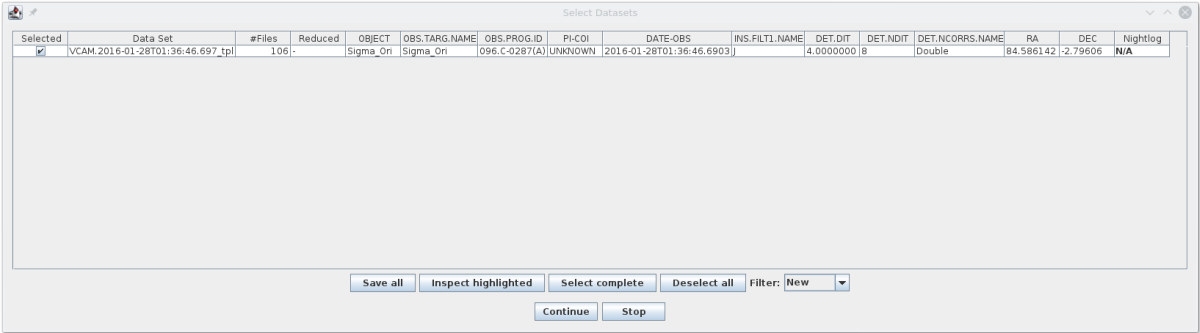

Figure 6.3: The “Select Datasets” pop-up window.
7. The `Data Set Chooser` actor will be highlighted next and will display a “Select Datasets” window (see Figure 6.3) that lists the datasets along with the values of a selection of useful header keywords7. The first column consists of a set of tick boxes which allow the user to select the datasets to be processed. By default all complete datasets which have not yet been reduced will be selected. A full description of the options offered by the `Data Set Chooser` will be presented in Section 8.3.2.